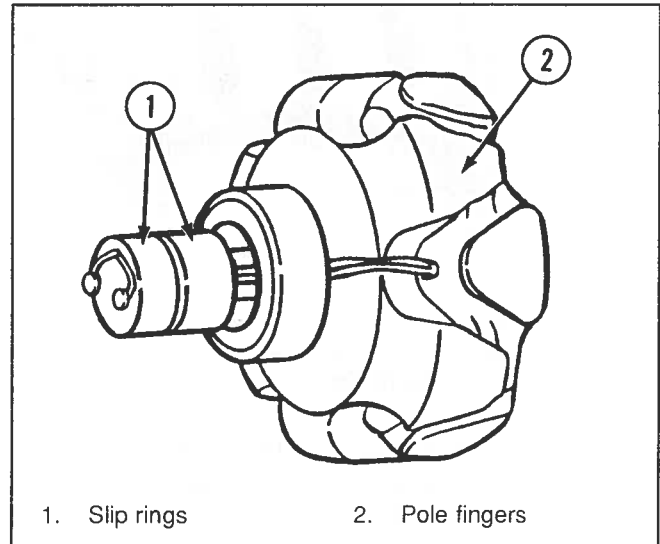

Figure 6-81. Testing Rotor
8. Check rotor assembly as follows (Figure 6-81):
- a. Visually inspect for physical defects such as damaged shaft threads, damaged pulley key slot, worn or damaged bearing areas, burned or pitted slip rings (1) and scuffed pole fingers (2).